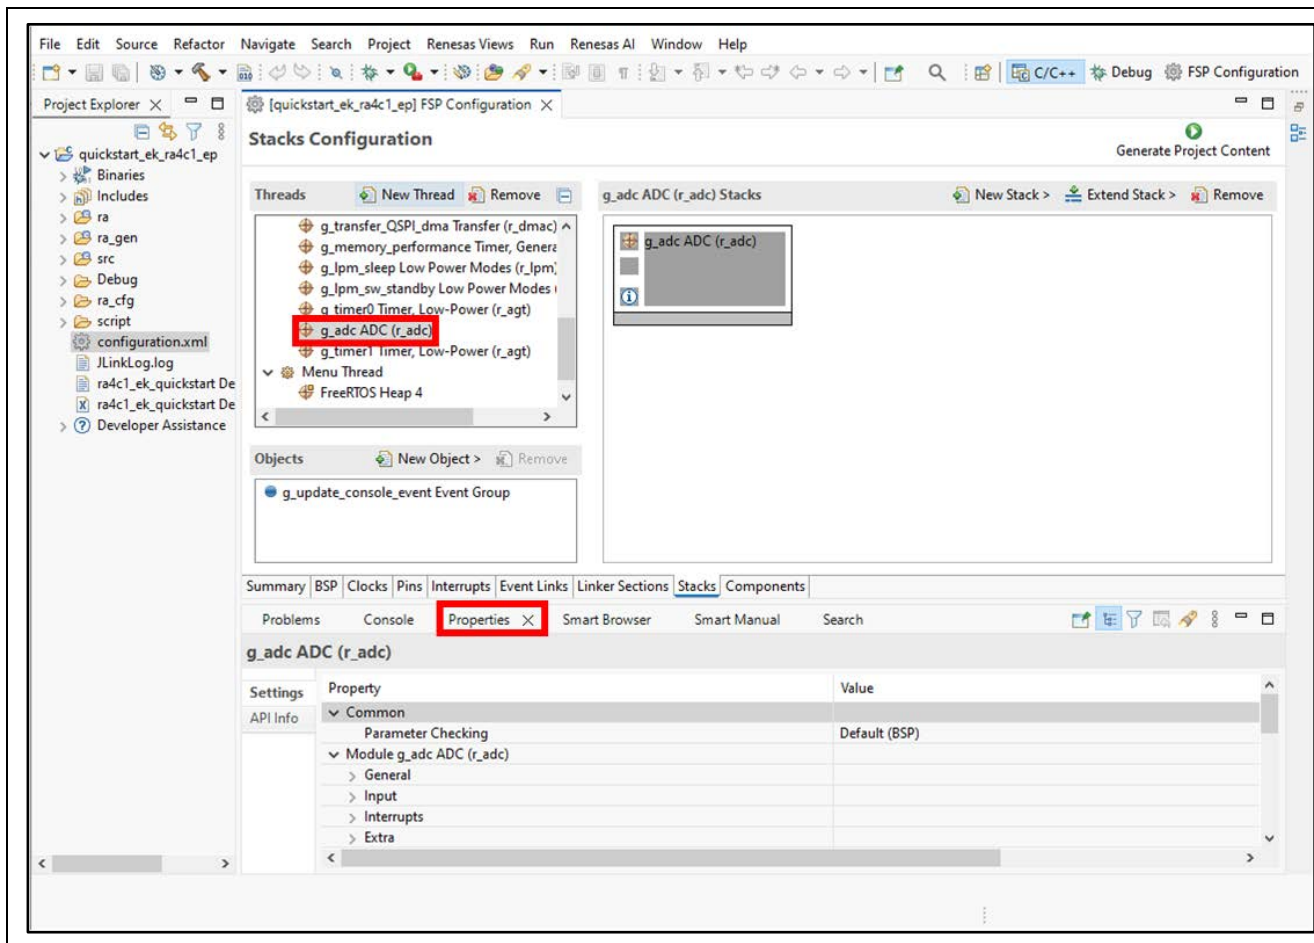

Figure 28. Modifying the Configuration Settings
2. For example, in the **Stacks** tab of the FSP configuration, the user can click to select modules to modify the configuration settings, as required, in the **Properties** tab. Figure 28 illustrates modifying the **ADC** driver configuration.